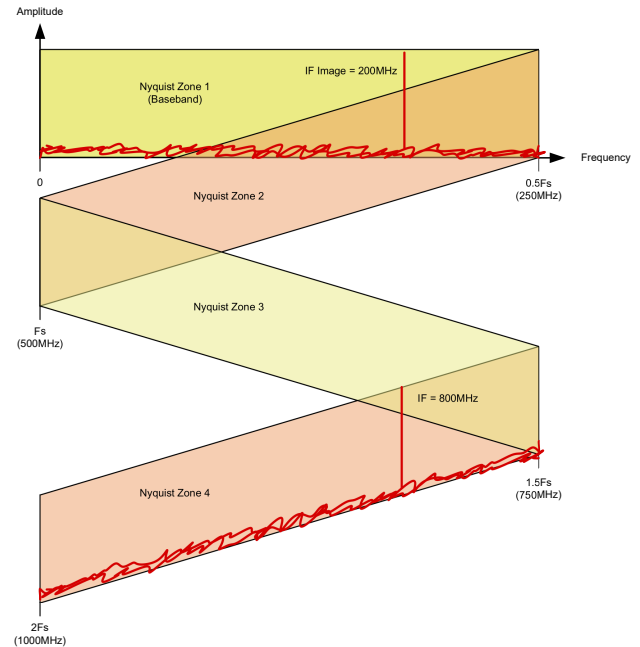

Figure 3. ADC3669 example, where $F_s = 500\text{MSPS}$ and the intermediate frequency = 800MHz.
For example, **Figure 3** shows the Texas Instruments (TI) ADC3669 sampling an intermediate frequency of 800MHz relative to a 500 MSPS sampling frequency (F_s). Essentially, the signal is in the fourth Nyquist zone. The image or alias of the interest frequency reflects back to the first Nyquist zone appearing as a 200MHz signal. Most fast Fourier transform (FFT) analyzers, such as **High-Speed Data Converter Pro**, only plot an FFT of the first Nyquist zone, or 0Fs to 0.5Fs. Therefore, if the frequency of interest is above 0.5Fs, an image reflects down to the first Nyquist zone or baseband. This can make things confusing if spurious tones are in the band of interest as well.